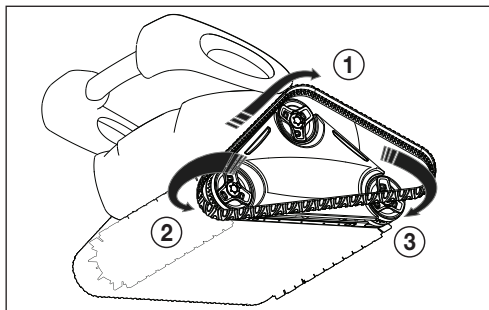

Figure 23. Stretch Track Around Wheels
4. Stretch the track around the second wheel, then pull over the last wheel (see Figure 23). Push and position the rib of the track so that the track is seated properly in the groove of the wheel.